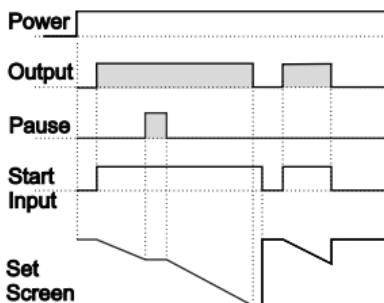

Figure 3.1
3.1.1 If Downcount **dEct**=1 and **outF** is **0-n** the control diagram is shown in Figure 3.1